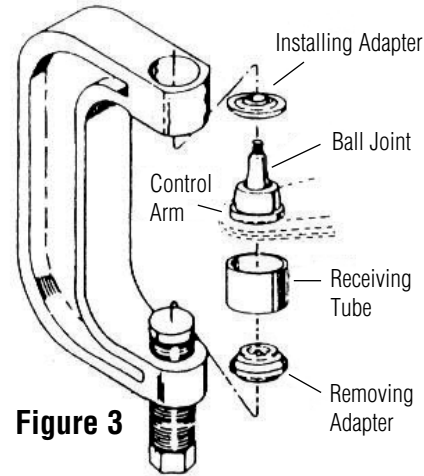

Figure 3
1. Assemble the ball joint press over the control arm as shown in Figure 3. Select the correct size receiving tube, and position it under the vehicle ball joint as shown.